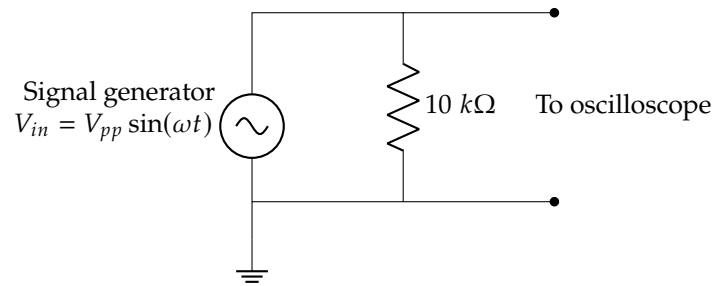

Figure 1.3: Connecting signal generator to a load resistor
**Task 9.** Connect the signal generator across a 10 kΩ resistor as in Figure 1.3. Apply a sinusoidal signal with a peak-to-peak voltage ( $V_{pp}$ ) of 1 V and frequency 1 kHz. Connect the oscilloscope probes of channel 1 and observe the signal. Plot  $V_{in}$  vs  $t$ .